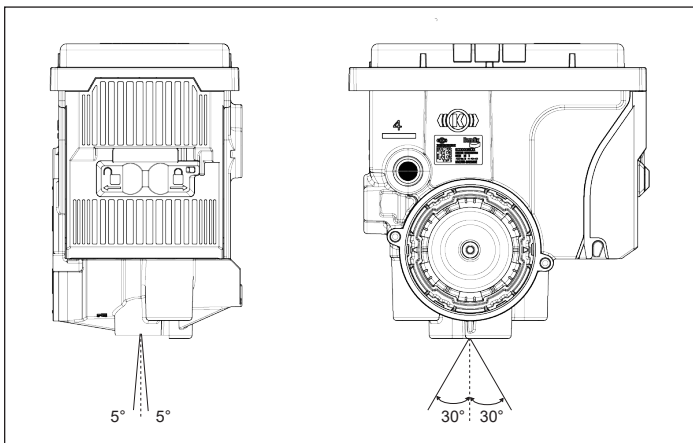

Figure 12 – Installation Angles
- Installation angles should comply with the stated values in *Figure 12*.